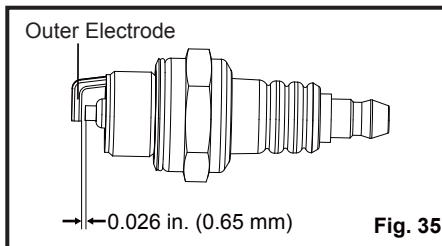

Fig. 35
- Adjust spark plug gap by bending outer electrode (Fig. 35).